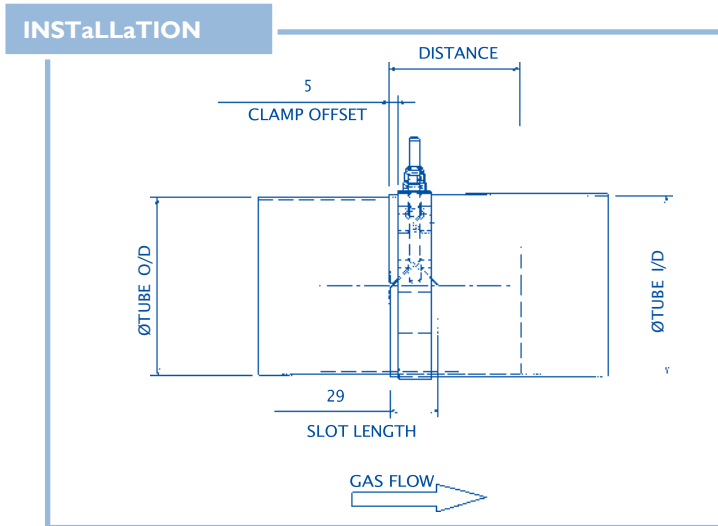

Figure 1: OD/ID Joint requirements
- 3.4 All OD/ID joints must be assembled as shown in Figure 1 where 'Distance' is a nominal 65 mm (minimum 50 mm).